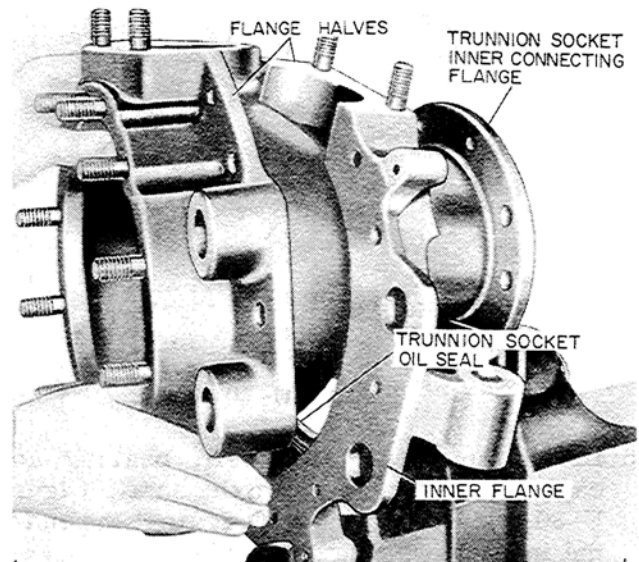

Figure U-36
4. Lift off the bearing cups. Then remove the nuts and bolts that hold the flange halves together. Remove the flange halves from the trunnion socket, Figure U-36. The inner flange half must be tipped at an angle to clear the inner connecting flange.